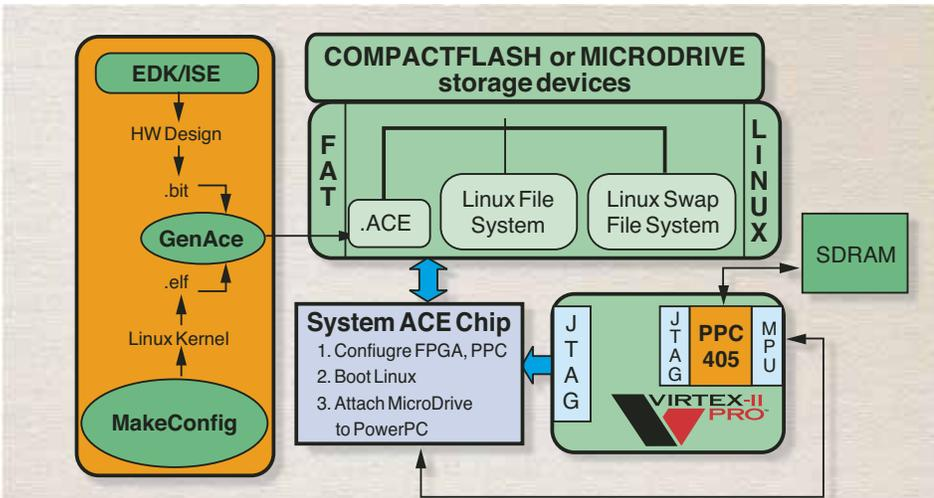

Figure 5 - The System ACE companion chip provides a powerful and easy-to-use method to boot both the processor and the FPGA.
- Recommended method – use the Xilinx System ACE CF companion chip that can read the combined FPGA bitstream and Linux kernel image from a CompactFlash™ mass storage device or MicroDrive™ compact storage device. The System ACE CF chip configures the FPGA, boots the CPU, and then loads the kernel image into processor memory, as shown in Figure 5. The PowerPC 405 program counter is advanced to the starting address of the Linux kernel. After the system is up and running, the processor can use the CompactFlash/MicroDrive as its secondary storage device. Other benefits of this process include the flexibility to store multiple boot configurations on the FAT file system and eliminating the need for memory at the reset vector.